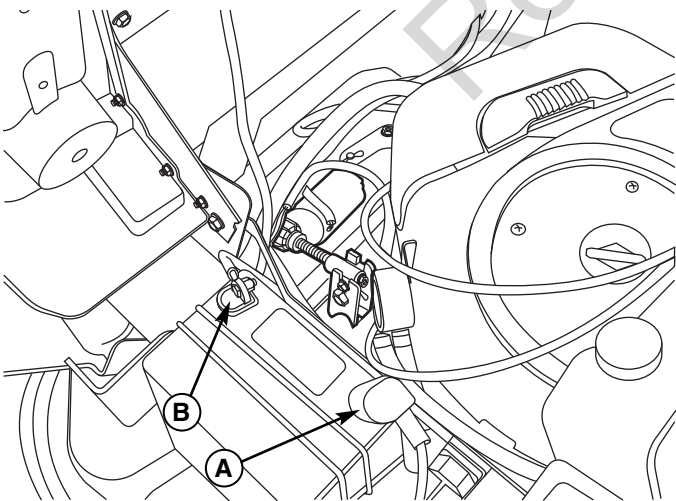

Figure 32. Engine Compartment
1. Disconnect the cables from the battery, negative cable first (B, Figure 32).
6. Reattach the battery cables: first attach the positive cable (see A, Figure 32), then attach the negative cable (B).